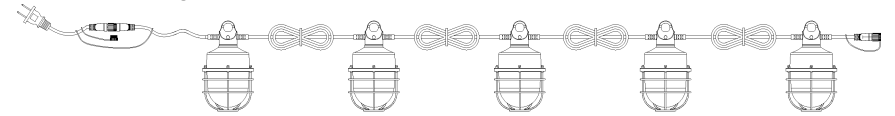

Figure 1
1. Turn off the power before installation, check and make sure the waterproof connector is well connected and the cap is tightly closed (Figure 1);